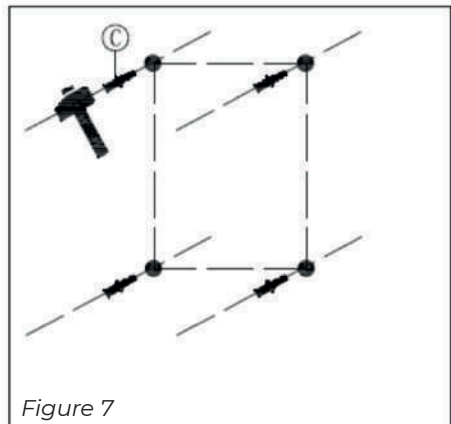

Figure 7
**6.** Place the wall plugs and provided rings (Figure 7, pos. C).